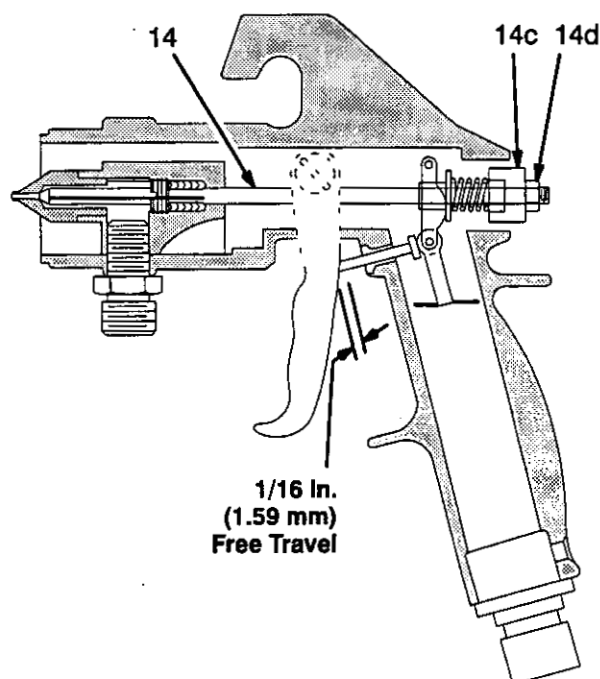

Fig. 25
2. Loosen the locking nut (14d) and turn the drum (14c). See Fig. 25.
3. Turn the drum (14c) until the trigger has about 1/16 in. (1.59 mm) free travel before the needle (14) is engaged and starts to move. See Fig. 25.
5. Make sure the spring (23) is in place in the housing (22), then install the housing with the other parts. Hand-tighten the housing.